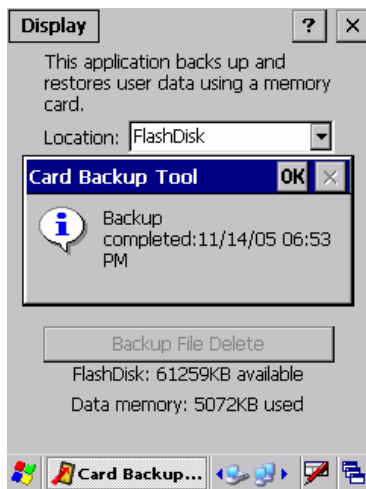

Fig. 4.86
4. The backup is complete when the window in Fig. 4.86 appears. Tap **OK** button to close the window.